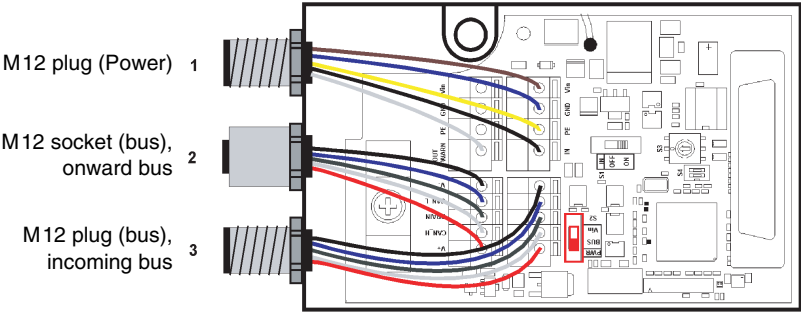

Figure 9.5: Installation and connection of the optional M12 connectors
- 5. Connect cables acc. to figure 9.5 and Table 9.2.